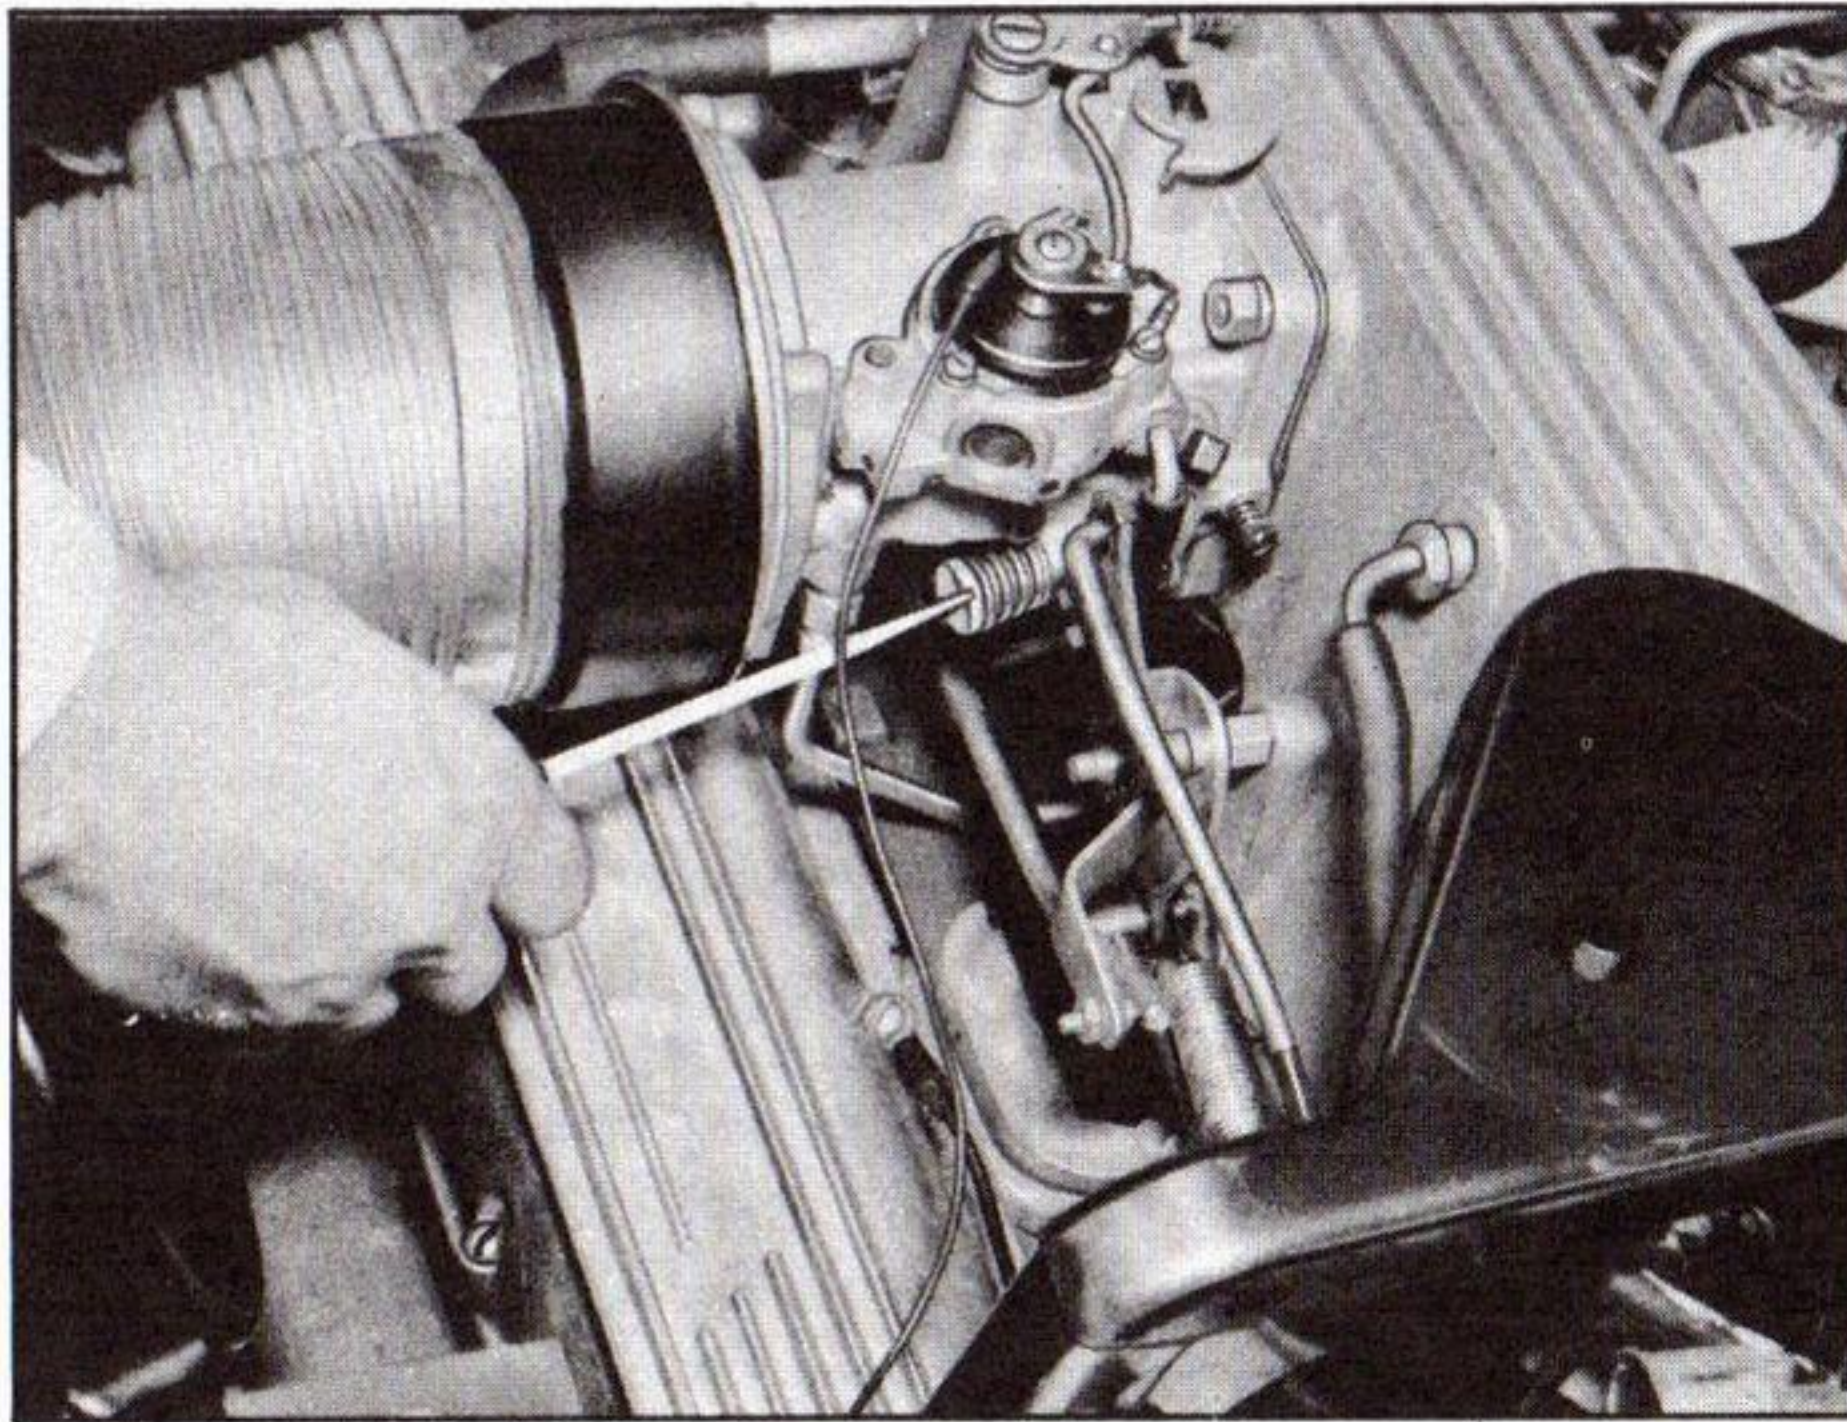

Fig. 60—Idle Air Adjustment
1. Turn idle air adjustment screw (engine speed) and idle fuel adjustment screw to approx. two turns open. Start engine and warm up, then adjust air adjustment screw (fig. 60) to obtain best possible idle speed.